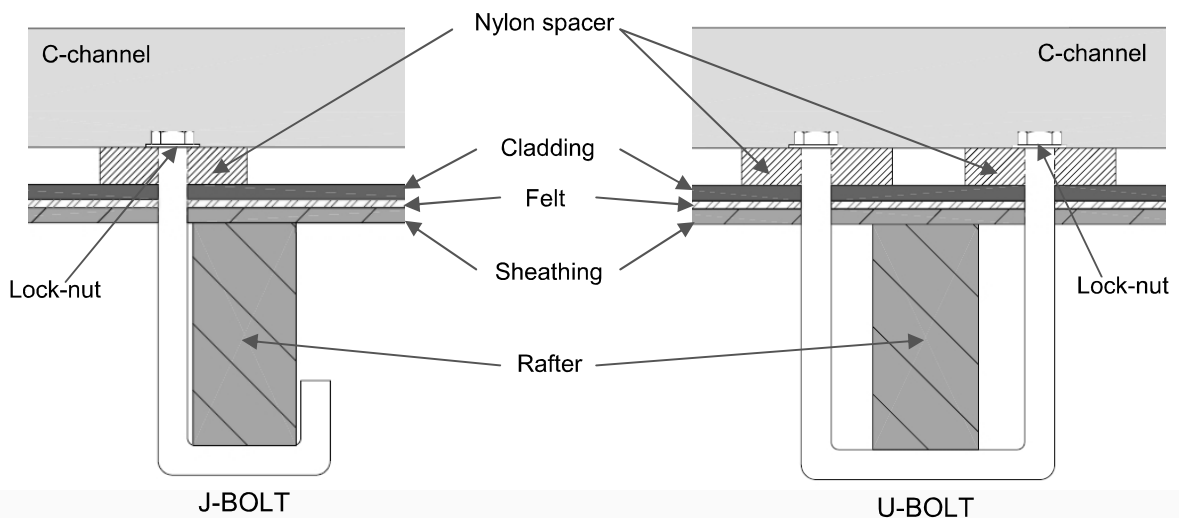

Fig. 5.3.2 – C-channel secured to rafter with J-bolts and U-bolts.
- Holes can be drilled immediately next to rafters and J-bolts or U-bolts (Ø3/8") and locknuts used to secure C-channel to rafters (Fig. 5.3.2).